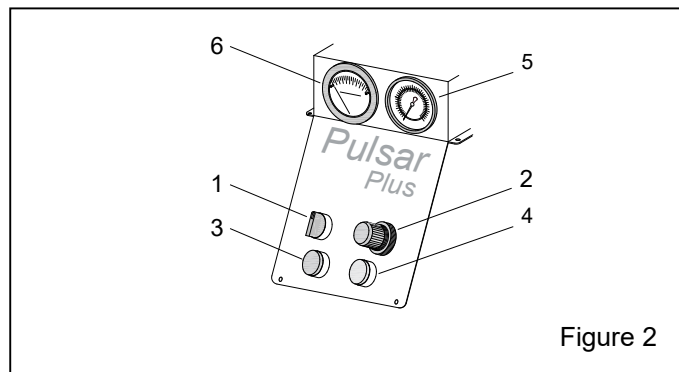

Figure 2
1.6 Control-Console Functions – Figure 2